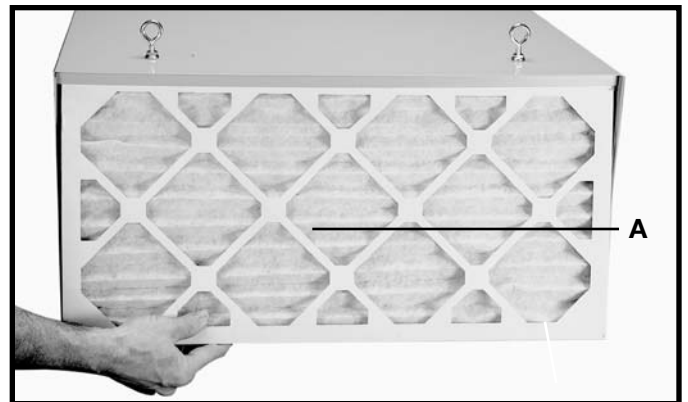

Fig. 11
1. To remove the outer first stage filter (A) Fig. 11, lift and pull out the bottom of the filter as shown.